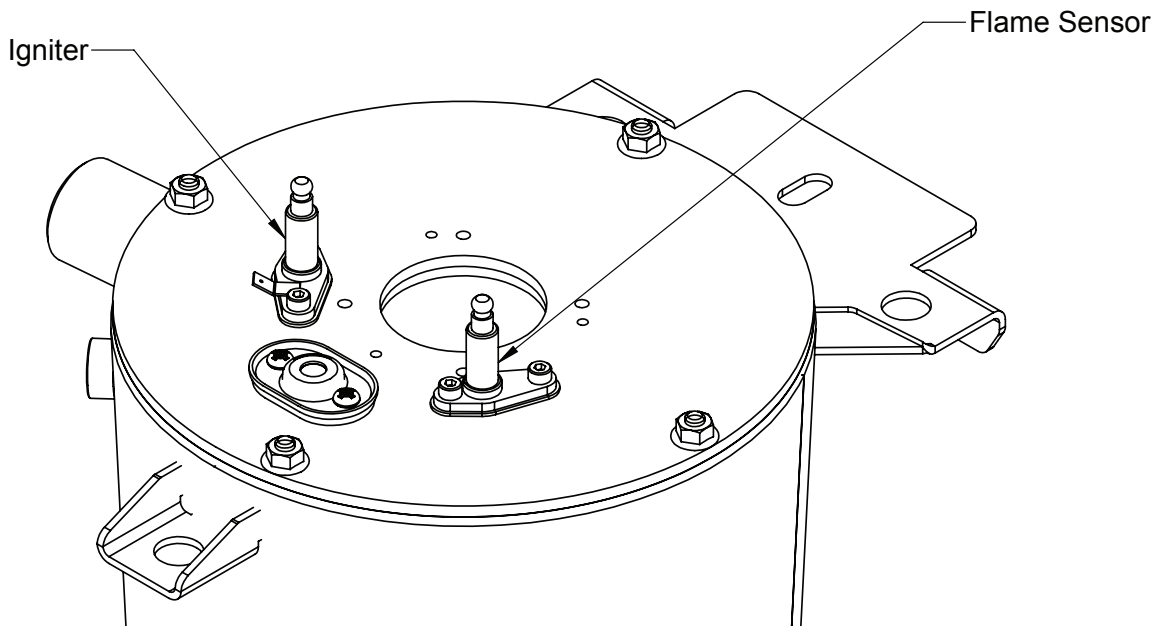

Figure 13.2: Igniter and Flame Sensor Location
- i. **Unplug the igniter, ground, and flame sensor wires** from the ignition electrode and the flame sensor (Figure 13.2).
- j. **Use a 10 mm wrench to remove** fire door to the heat exchanger (Figure 13.2). Carefully remove the door/blower/gas valve assembly from the heat exchanger, being careful not to damage the refractory insulation on the inside of the door (see Refractory Warning on page 125) or the electrodes.